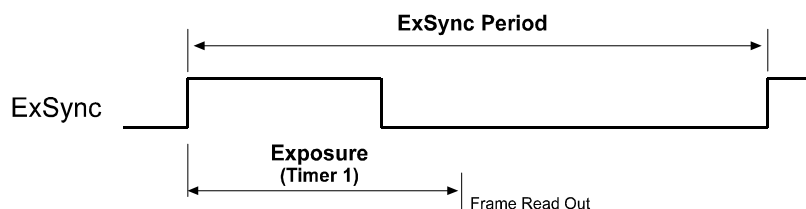

Figure 3-6: ExSync, Programmable Mode
- In **ExSync, programmable** mode, the rising edge of ExSync triggers exposure and charge accumulation for a pre-programmed period of time. The frame is read out and transferred at the end of the pre-programmed period. The falling edge of ExSync is not relevant (see Figure 3-6).